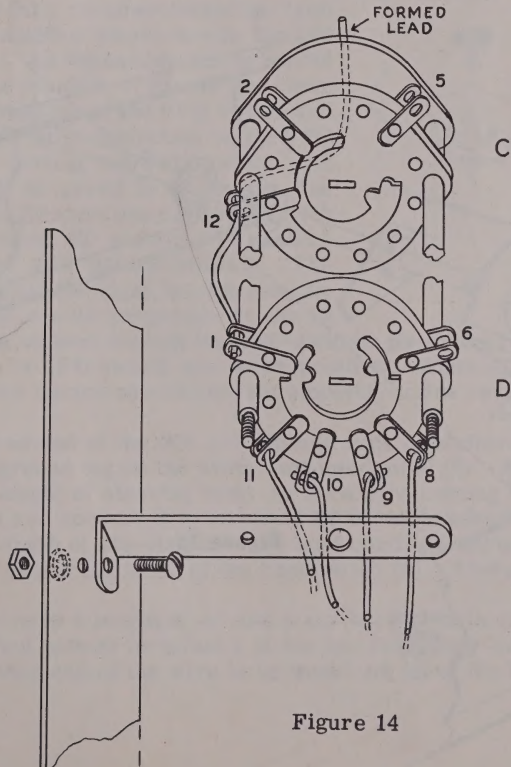

Figure 14
- ✓ The bandswitch consists of two main sections. The front section has one wafer and the back section has two wafers. Select the back section and refer to Figure 14 and Pictorial 8 to identify the terminals.
- ✓ Insert a large bare wire through both contacts of terminal 12C and bring the end over to 1D. Arrange the wire to clear the switch post and shape the wire with pliers so as not to put undue strain on the switch terminals. Solder both pair of terminals and leave 1 3/4" of wire extending from terminal 12C. Form the wire as shown in Figure 14.
- (✓) Use a screwdriver to position the switch rotors as shown in Figure 14. Note the position and shape of the rotor blades. Rotate both switch rotors to the exact position shown so that the back section of the switch will be properly oriented with respect to the front section to be installed later.
- (✓) Move the entire switch into position as shown in Figure 14, taking care to guide the single #14 wire protruding from the front of the switch into the solder lug on the feed-through insulator near the driver shield plate. Use 6-32 hardware to fasten the switch mounting foot to the hole near the center on the side of the 6146 sub-chassis. Do not tighten the mounting screw on the foot at this time.
- (✓) Bend the bottom tank coil tap protruding through the chassis approximately 1/2" to the right, keeping it centered in the chassis hole and connect the heavy wire from terminal 9D to it (NS).
- (✓) Leave the center coil tap straight out from the chassis and connect the wire from terminal 10D to it (NS).
- (✓) Bend the top coil tap approximately 1/2" to the left, keeping it centered in the chassis hole and connect the wire from switch terminal 11D to it (NS). These connections will not be soldered until after the switch mounting foot has been tightened.
- (✓) The long wire from terminal 8D should be run clear of the other taps and connected to the rear feed-through insulator solder lug (NS).